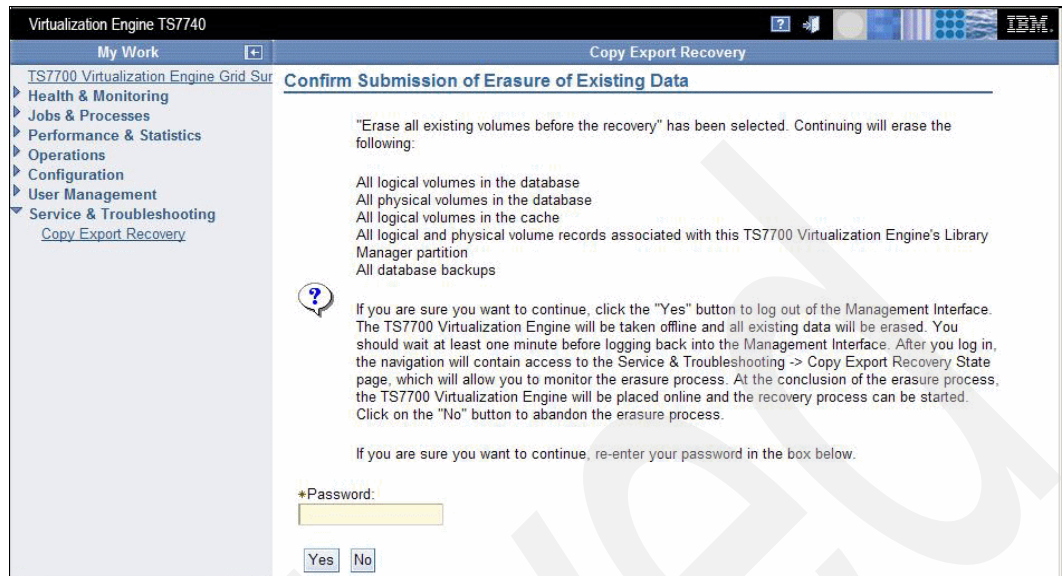

Figure 9-17 Menu with Confirm submission of Copy Export Recovery
5. Type the password and click **Submit** on the menu in Figure 9-17.